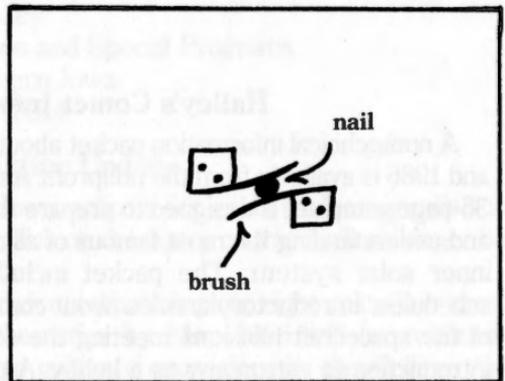

Figure 4
- 8) Bend forward a 3 cm base for each brush. Carefully align the brushes across from each other as in Figure 4, and check that they are the proper height to contact the metal strips. Anchor them with two metal screws leaving a third screw up for a terminal.